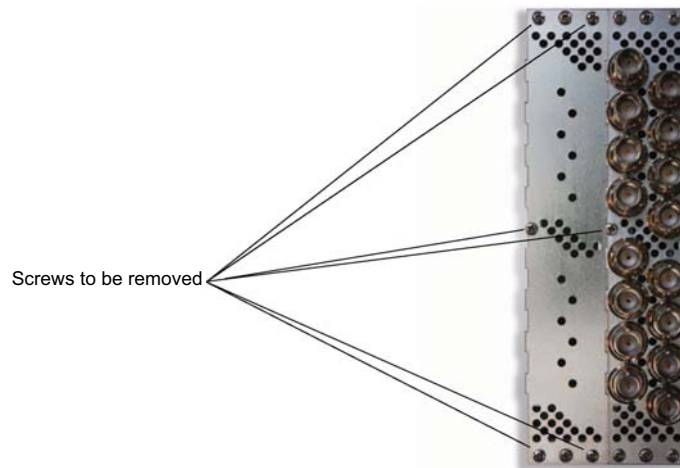

Figure 3.3 Blanking Plate and BNC Rear Connector Strip
2. On the rear panel of the routing switcher, remove the six screws from each blanking plate corresponding to the slots into which you want to insert cards (see **Figure 3.3**).